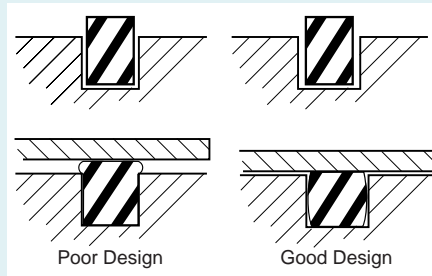

Figure 30 Allowing for Solid Elastomer Flow in Groove Capture Attachment Method
A. Groove Capture This method is strongly recommended if a groove can be provided at relatively low cost, such as die-casting. (**Caution:** POLA-STRIP gaskets are essentially incompressible, although they seem to compress because the material flows while maintaining the same volume. Extra space must be allowed to permit the solid elastomer material to flow (see Figure 30).